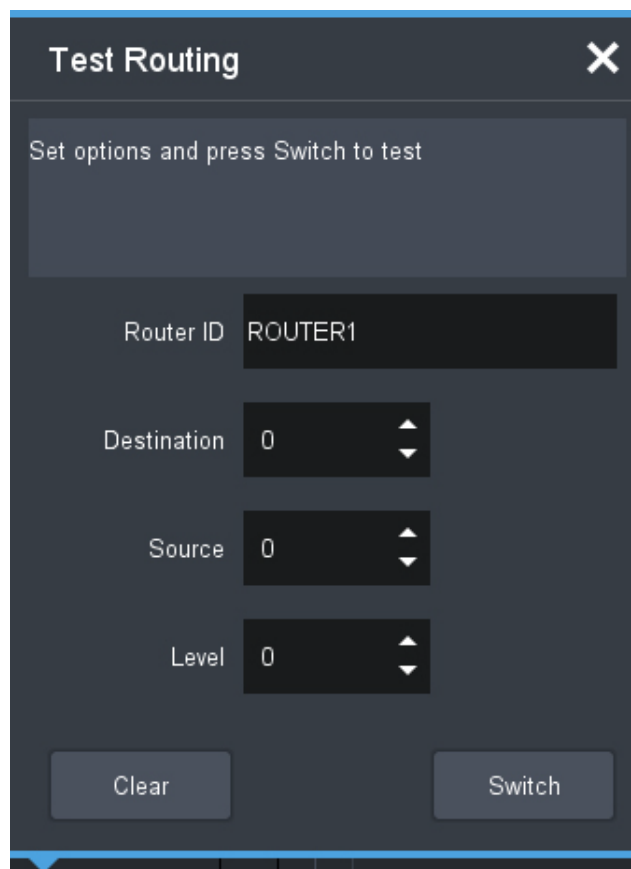

Figure 98 - Test Routing Dialog Box
- **Test Routing** button — Opens the **Test Routing** dialog box (Figure 98), which enables you to test router settings: